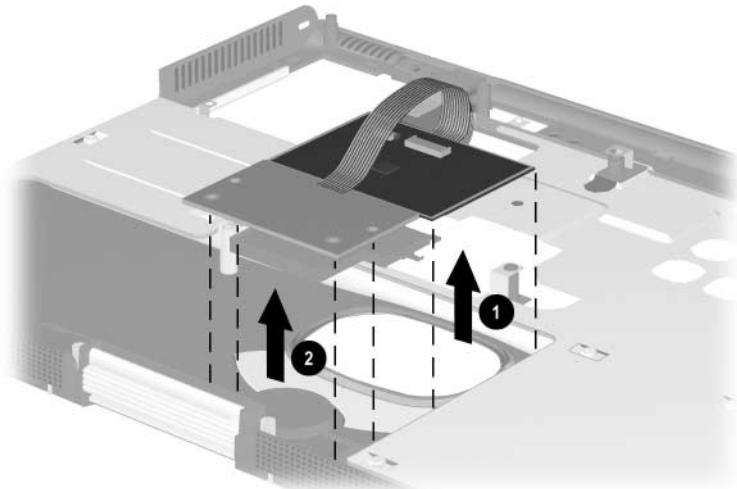

Figure 5-28. Removing the TouchPad and the TouchButton Board
6. Remove the TouchPad ① and the TouchButton board ② from the top cover (Figure 5-28).